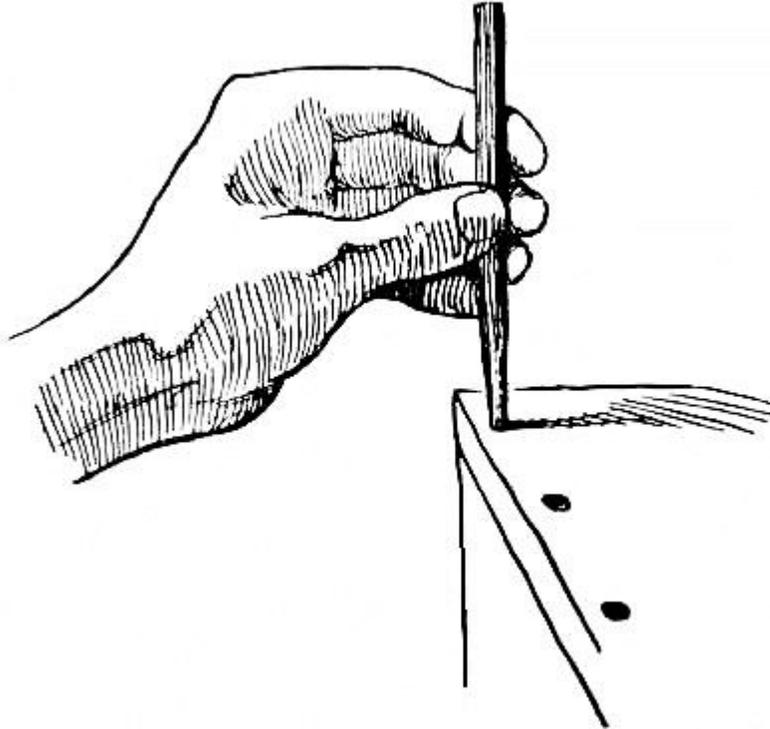

FIG. 33.—Setting Nails.
**The Nail-set**, holding the tool as shown in Fig. 33. The holes made by the heads should be filled up with putty before the finish is put upon the wood.